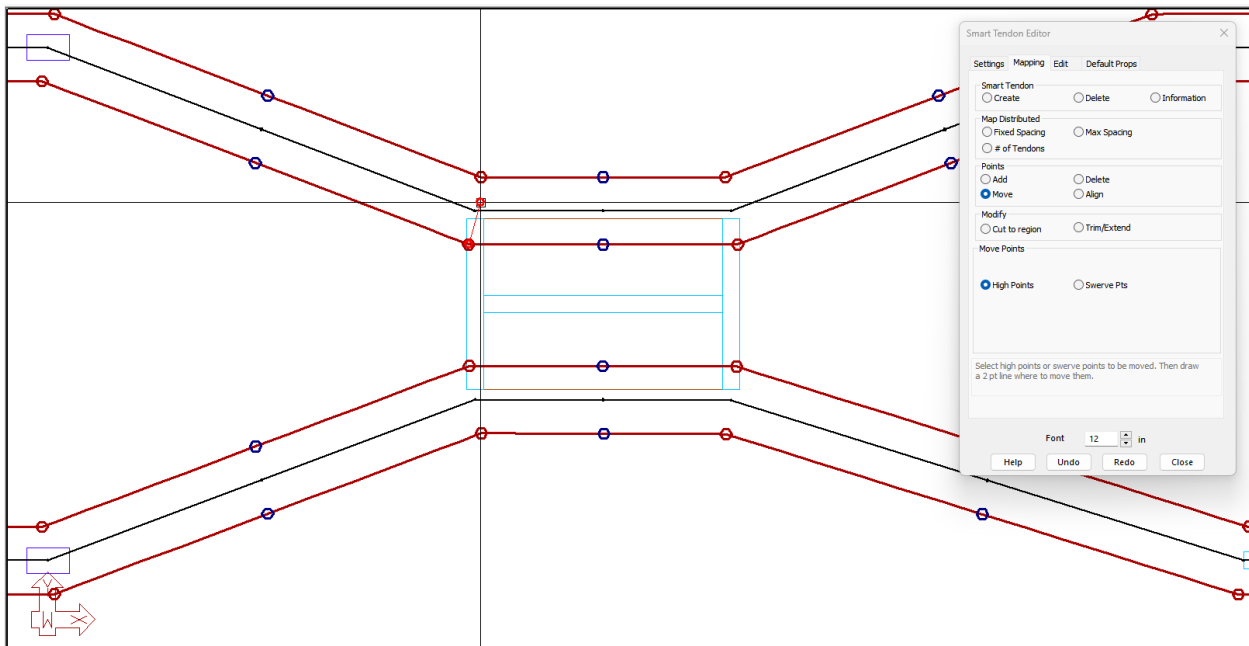

FIGURE 9-53
- This will select the high point so it can be moved. Move the high point below the top tendon, and click to place it, as shown in **FIGURE 9-53**.